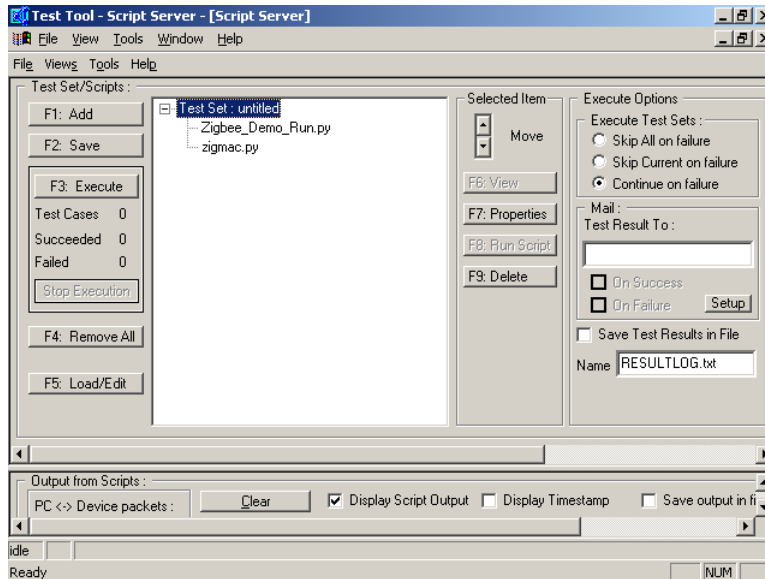

Figure 6-8. Script Server Window
1. Launch the Script Server application from the Test Tool main window toolbar by clicking on View->Script Server. The Script Server window appears as shown in Figure 6-8.